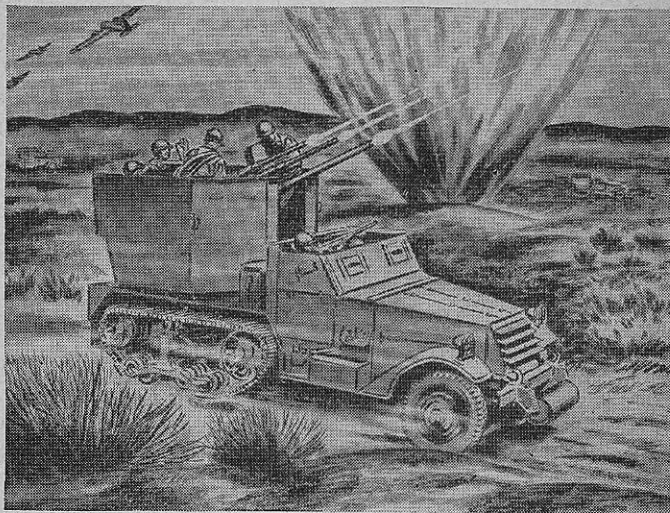

FIGURE 1.—Multiple gun motor carriage M15.
■ 2. DESCRIPTION.—*a.* The multiple gun motor carriage M15 is an armored half-track vehicle capable of maneuvering over rough terrain (fig. 1). The carriage mounts one 37-mm automatic gun and two caliber .50 HB machine guns. The three guns are mounted with the axes of their bores parallel. The guns are fired with the mount in traveling position. The gun crew rides the mount in their firing positions, ready to open fire on a few seconds notice. The squad leader rides in the cab with the driver and operates the radio when on convoy. The driver operates the radio when the vehicle is stopped. All members of the gun crew act as antiaircraft lookouts.